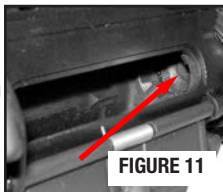

FIGURE 11
- Look into the receiver and check chamber to be sure no cartridges are visible (FIGURE 11).